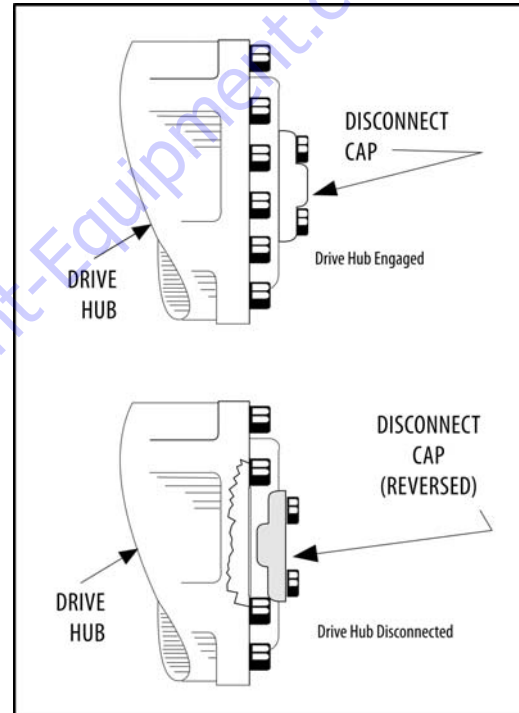

Figure 4-9. Drive Disconnect Hub
3. Disconnect drive hubs by inverting disconnect cap. Refer to Figure 4-9., Drive Disconnect Hub.